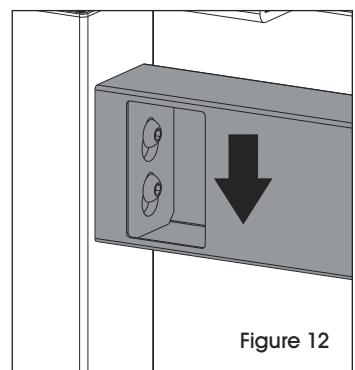

Figure 12
12. Place keyhole slots on end of stringer onto previously installed "F" Allen head bolt threads. Push stringer down so bolts are in smaller hole on slots. Tighten "F" Allen head bolts to secure. (See Figure 12)